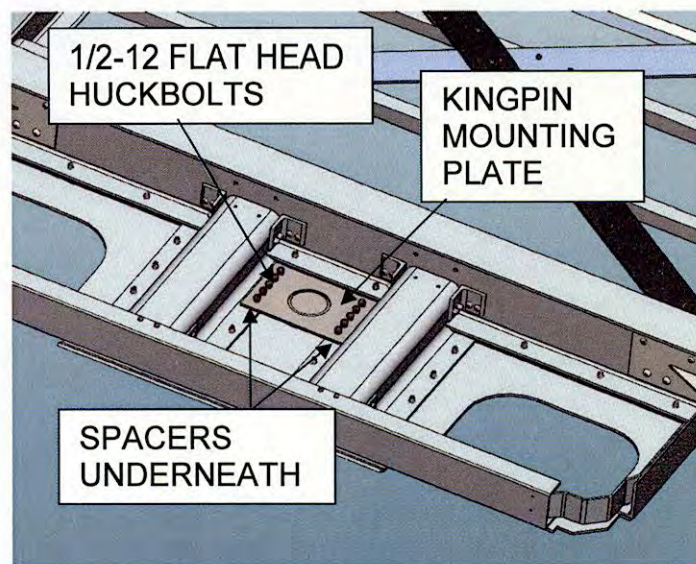

Figure 12
12. Set the kingpin mounting plate on top of the kingpin mounting plate spacers per Figure 12 above. Ensure that all holes line up properly on all parts. Fasten the mounting plate using 1/2-13 flat head Huckbolts